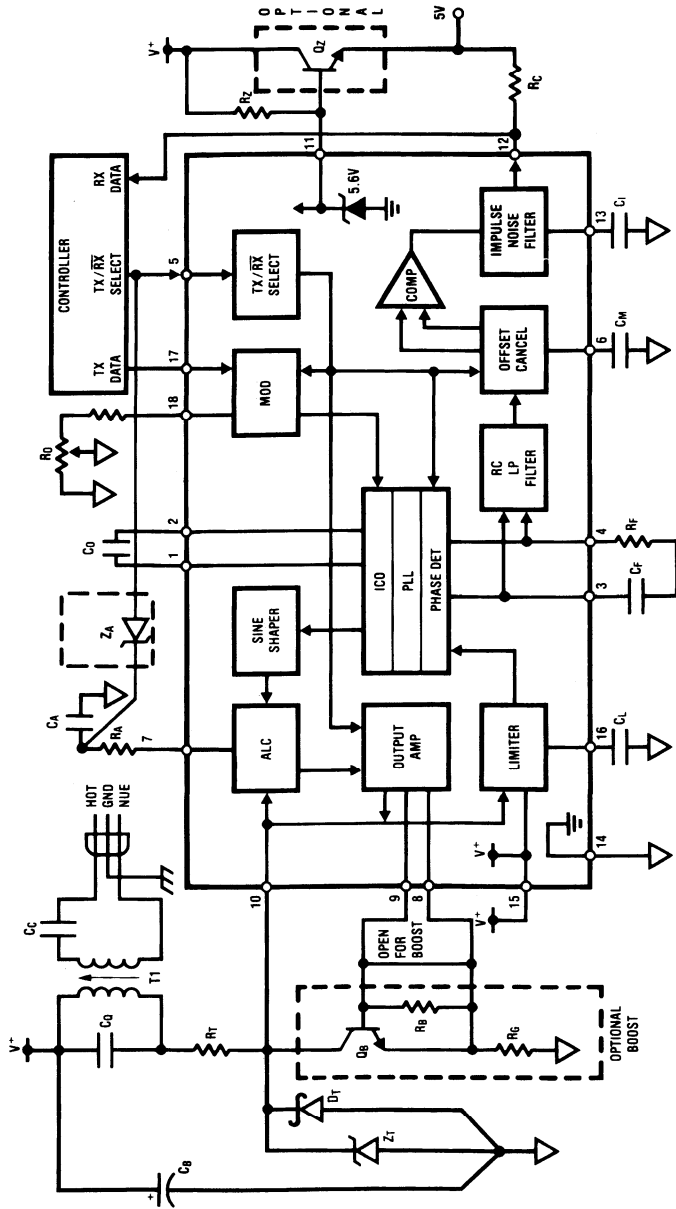

FIGURE 4. Block diagram of a CCT system with the boost and 5V supply options shown in dashed boxes
The BI-LINET™ chip serves as a power line interface in the carrier-current transceiver (CCT) system of Figure 3. Figure 4 shows the interface circuit now discussed. The controller may select either the transmit (TX) or receive (RX) mode. Serial data from the controller is used to generate a FSK-modulated 50 to 300 kHz carrier on the line in the TX mode. In the RX mode line signal passes through the coupling transformer into the PLL-based receiver. The recreated serial bit stream drives the controller.
With the IC in the TX mode (pin 5 a logic high), baseband data to 5 kHz drive the modulator's Data In pin to generate a switched 0.9781/1.0221 control current to drive the low TC, triangle-wave, current-controlled oscillator to $\pm 2.2\%$ deviation. The tri-wave passes through a differential attenuator and sine shaper which deliver a current sinusoid through an automatic level control (ALC) circuit to the gain of 200 current output amplifier. Drive current from the Carrier I/O develops a voltage swing on T_1 's (Figure 4) resonant tank proportional to line impedance, then passes through the step-down transformer and coupling capacitor C_C onto the line. Progressively smaller line impedances cause reduced signal swing, but never clipping—thus avoiding potential radio frequency interference. When large line impedances threaten to allow excessive output swing on pin 10, the ALC shunts current away from the output amplifier, holding the voltage swing constant and within the amp's compliance limit. The amplifier is stable with a load of any magnitude or phase angle.
FIGURE 5. A quick explanation of the external component function using the circuit of Figure 4. Values given are for V⁺ = 18 V, F_O = 125 kHz, f_{DATA} = 360 Baud (180 Hz), using a 115 V 60 Hz power line
Assuming the circuit of Figure 4 is used with something other than the nominal 125 kHz carrier frequency, 180 Hz data rate, 18V supply voltage, etcetera, the component values listed in Figure 5 will need changing. This section will help direct the CCT designer in finding the required component values with emphasis placed on look-up tables and charts. It is assumed that the designer has selected values for carrier center frequency, F_O; data rate, f_{DATA}; supply voltage, V⁺; power line voltage, V_L; and power line frequency, F_L. If one or more of those parameters is not defined, one may read the data sheet and make an educated guess.